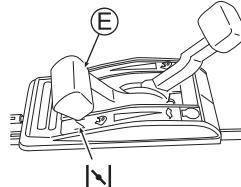

Fig. 11
3. Set the throttle lever (E) to choking "↖". (See Fig. 11) (The engine can start by setting the lever at "↖" when it is warm.)